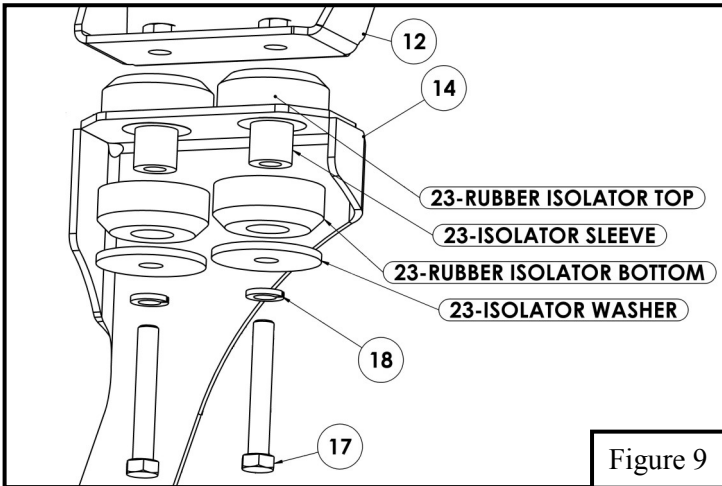

Figure 9
10. Install Bottom Isolator Bracket (Item 14) to previously mounted Top Isolator Bracket (Item 12) with supplied Isolator Kit (Item 23) and M12 Hardware. Assemble loosely. See **Figure 9**